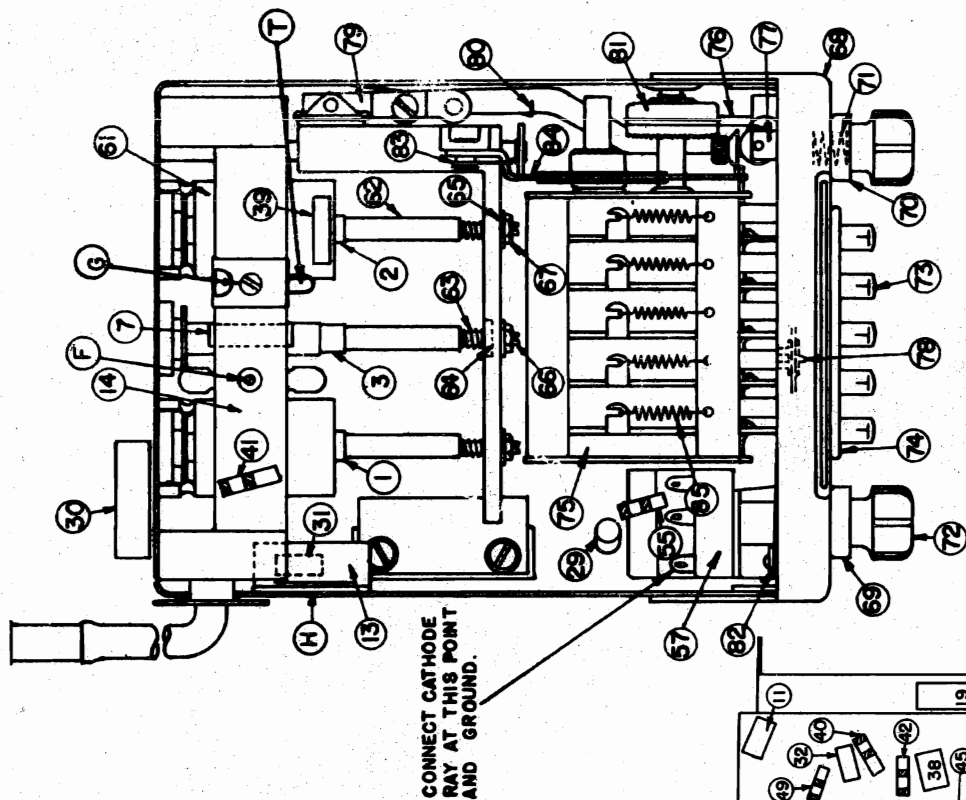

FIG. 5--PARTS LAYOUT--TUNER ASSEMBLY
- (a) Connect the ground lead of the Signal Generator to chassis frame. Connect the signal lead through an 0.1 mfd. condenser to the terminal "T" (Fig. 5).